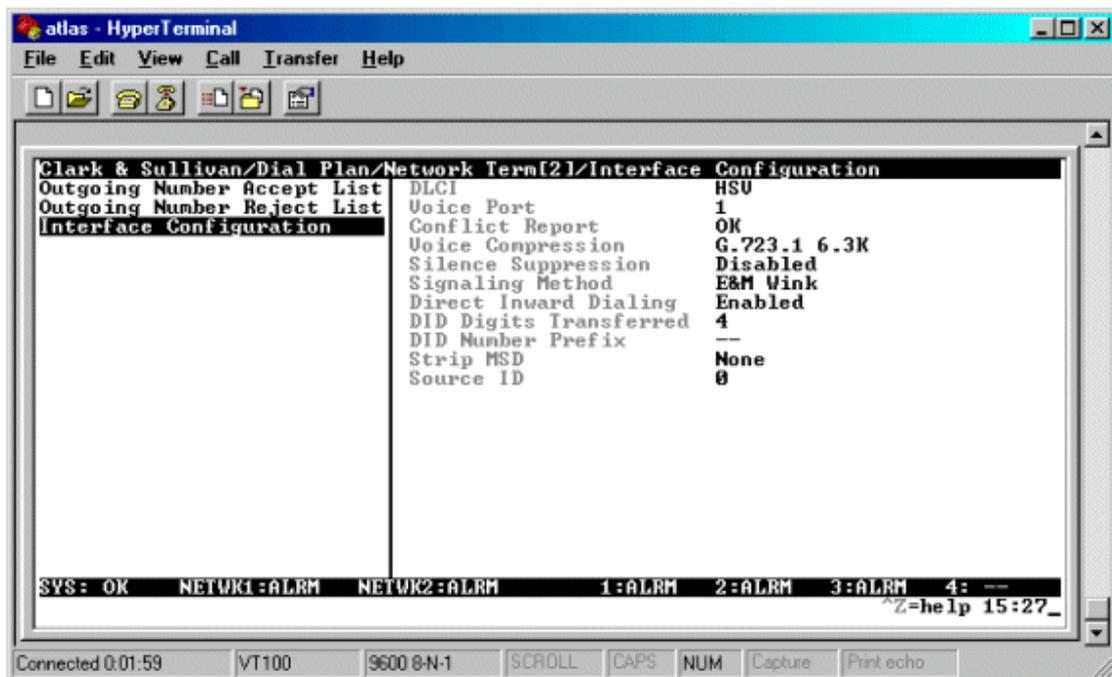

Figure 17
4. Hit >esc<: until you are back to the **User Term** screen. Go to **lfce Config** and press <enter>. You should now see the screen as shown in **Figure 17**.